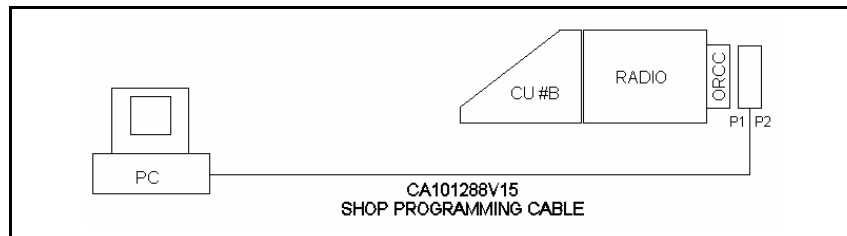

Figure 11-2: M7100 Unit PC Programming Configuration
1. Connect the M7100 Front Mount Radio with ProGrammer, as shown in Figure 11-2. Program the radio with the following parameters: